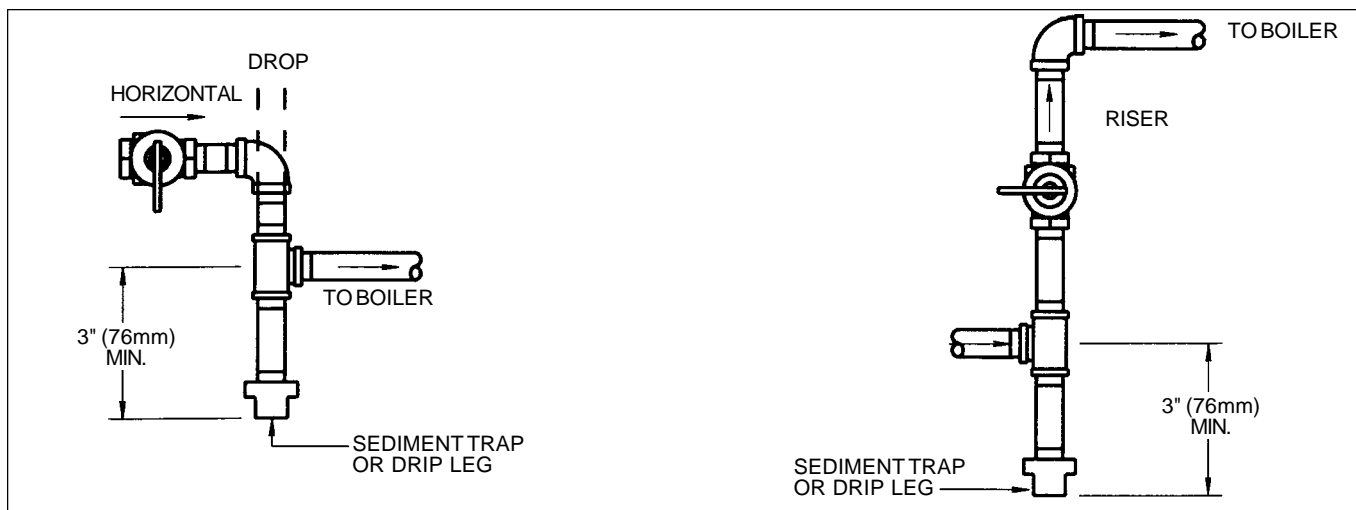

Figure 3. Gas Supply Piping.
- A trap (drip leg) must be provided ahead of the gas controls (see Figure 3). A manual gas shutoff valve approximately 5' (1.5m) above the floor must also be provided for service, convenience and safety. Check the local codes.